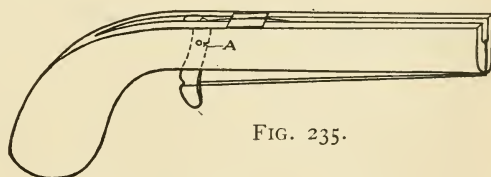

FIG. 235.
A **Toy Pistol** can also be made out of a tongued-and-grooved board. Some such shape as shown in Fig. 235 should first be drawn upon the board, with the groove extending along the top. Cut this out with your jack-
**The Bullets** for this pistol consist of pieces of cardboard cut into small squares. To load the pistol, slip one of the squares through the rubber band as shown in Fig. 237, so that it rests on top of the groove, as shown in Fig. 235. Upon pulling the trigger the bullet will shoot out of its position, and though naturally one might think the loop of the rubber band would catch